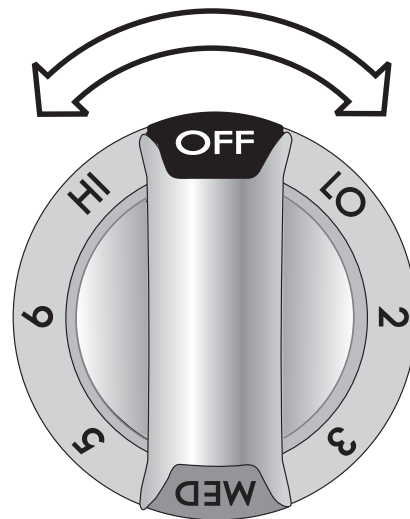

Figure 2
2. Push in and turn the surface control knob in either direction to the desired setting (Figure 2).